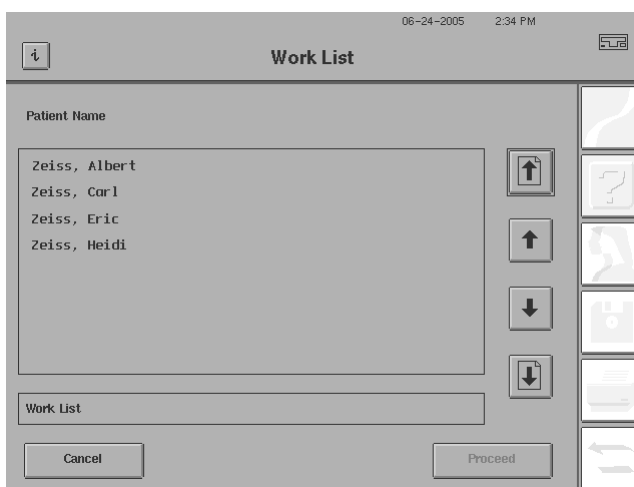

Figure 14.53 Work List Browser Screen
- 5 Once you have entered the various limitations that you wish to use, select PROCEED. A message will be displayed indicating "Waiting for response from server..." as the patient list is being retrieved from the external EMR/PMS/DICOM application. A Work List browser screen (Figure 14.53) will then open displaying the complete list of patients that satisfied your search criteria. The list will always be sorted by patient name in ascending alphabetical order.